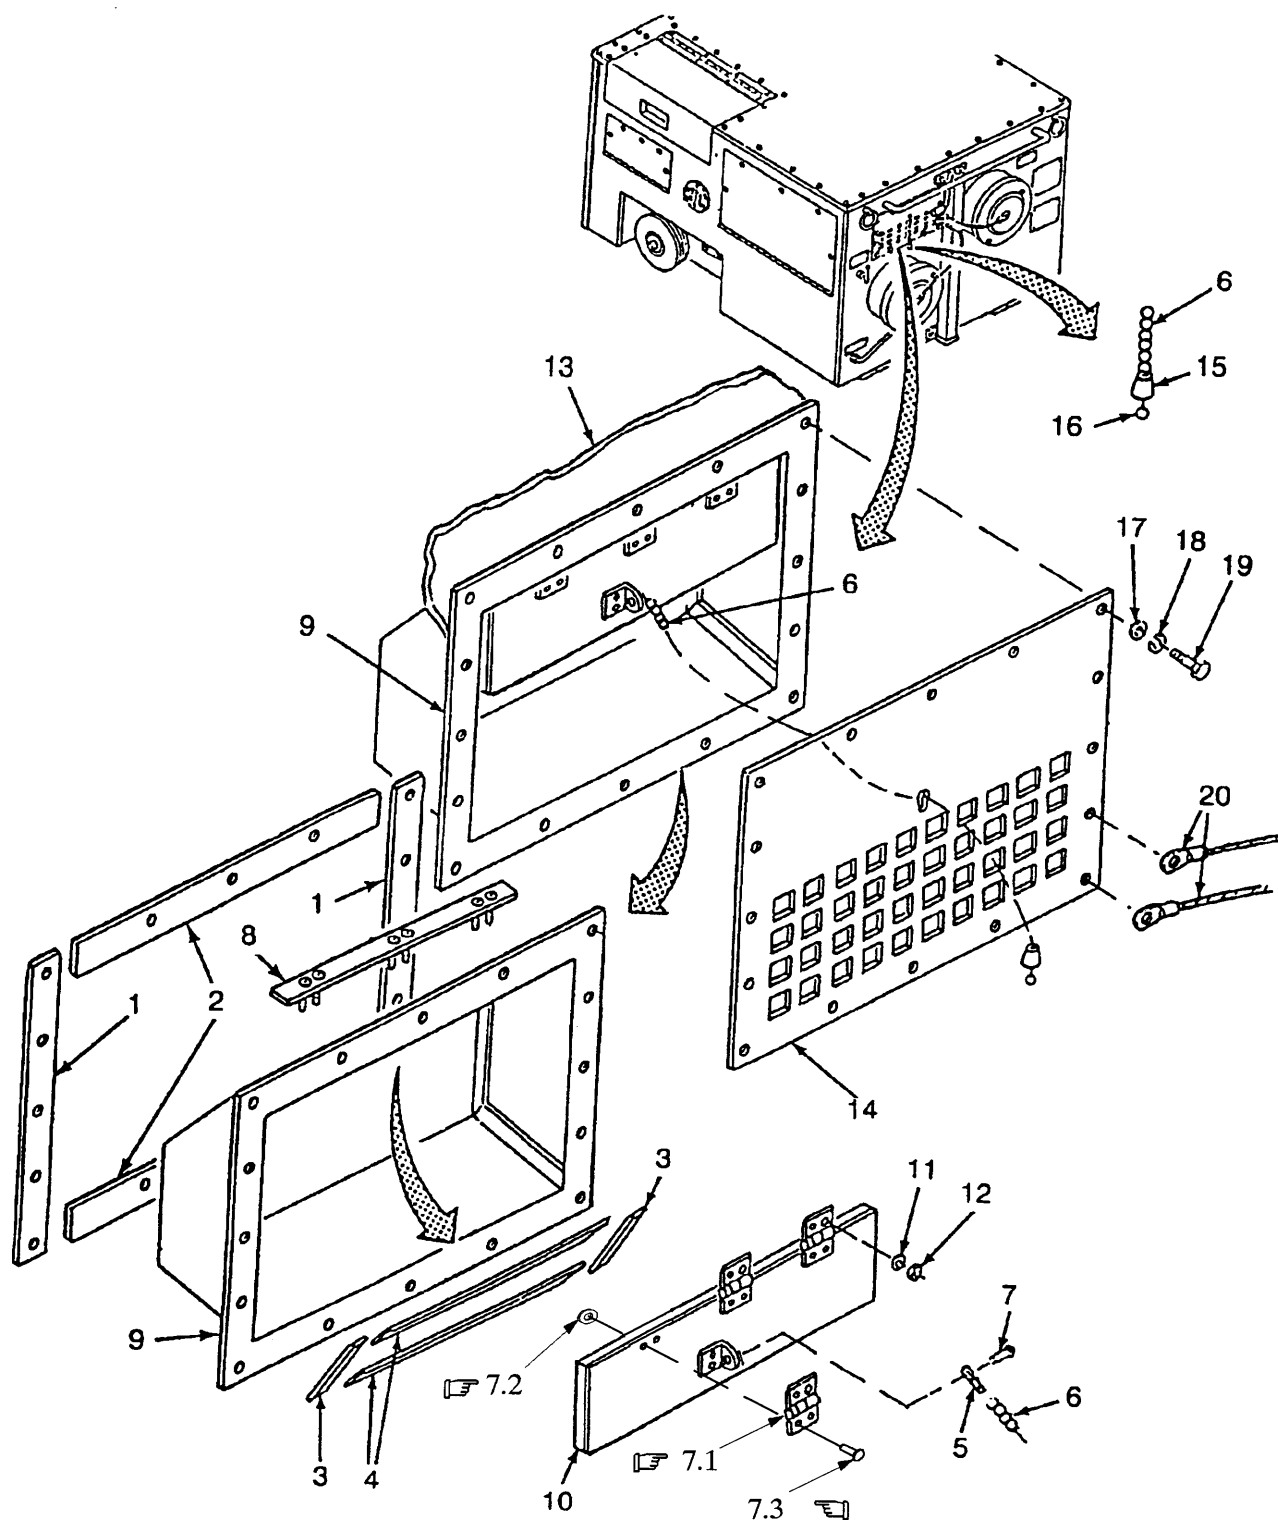

Figure 4-80. Damper Assembly Assembly/Installation
- d. Assembly (Refer to Figure 4-80)
- (1) Install two gaskets (1)(Item 65, App F) and two gaskets (2)(Item 66, App F).
- (2) Install two gaskets (3)(Item 68, App F) and two gaskets (4)(Item 67, App F).
- (3) Attach clip (5) on chain (6)(Item 69, App F).
- (4) Install clip (5) and rivet (7).
- (5) Position hinges (7.1) and secure with two backup plates (7.2)(Item 33, App H) and two rivets (7.3)(Item 1, App H).
- (6) Position mounting plate (8) on damper (9). Position door (10) on damper (9) and mounting plates (8) and secure with six flat washers (11) and six locknuts (12).
- e. Installation (Refer to Figure 4-80)
- (1) Insert damper assembly (9) into frame (13).
- (2) Feed chain (6) through slot in grill (14) and install pendant (15) and clip (16).
- (3) Install fourteen flat washers (17), fourteen lockwashers (18) and fourteen screws (19).
- (4) Position two dust cover stays (20) on grill (14) one at a time and secure each with a flat washer (17), lockwasher (18) and screw (19).